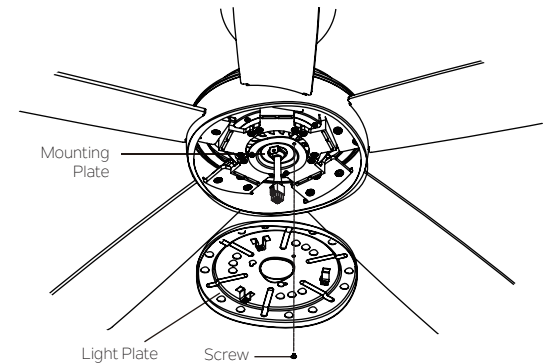

Fig. 17
Step 1. Remove the screw marked with a dot label on the mounting plate and save for later use, and slightly loosen the other two screws. Attach the light plate to mounting plate using the two key slots in the light plate. Replace the previously removed screw and securely tighten all 3 screws. (Fig. 17)